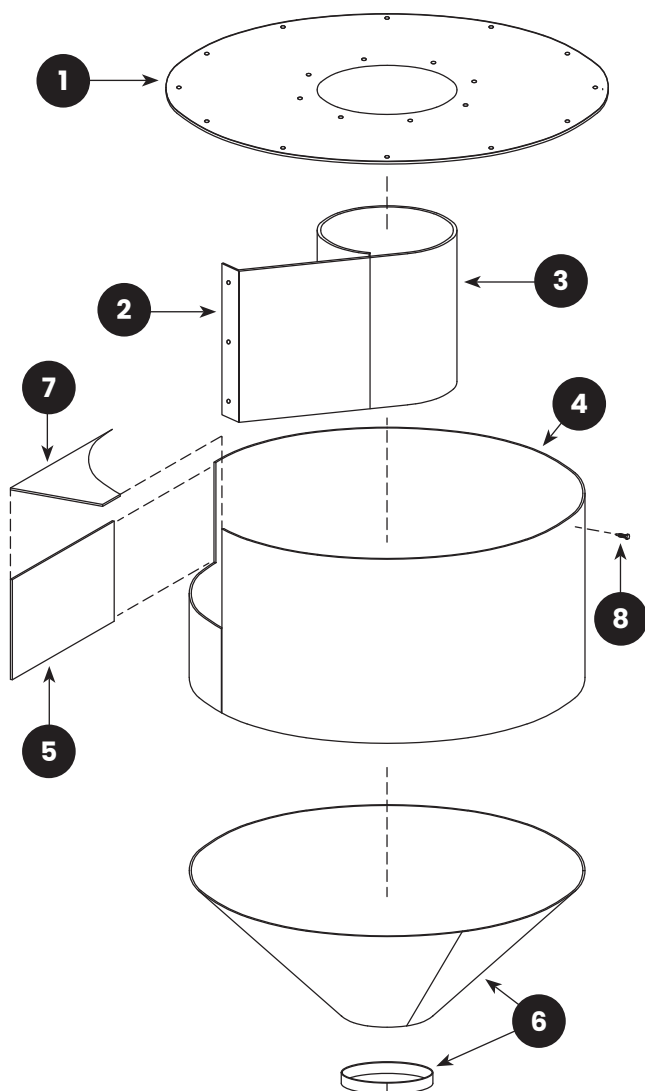

FIGURE 20
9.5 | Reclaimer Rubber Liners, 600 cfm – Figure 20